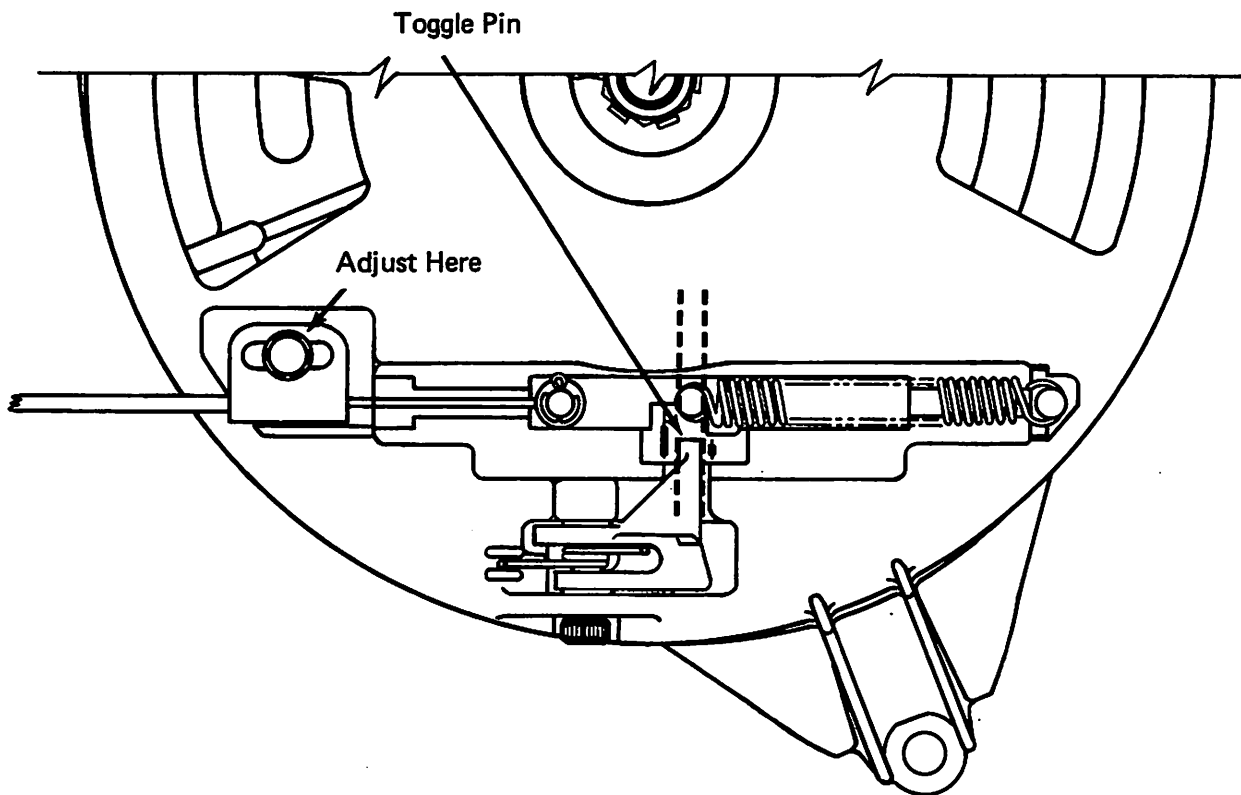

Figure 1. Cable Adjustment
3. Move sliding cam by moving cable until toggle pin is centered on cam rise. (Figure 1)